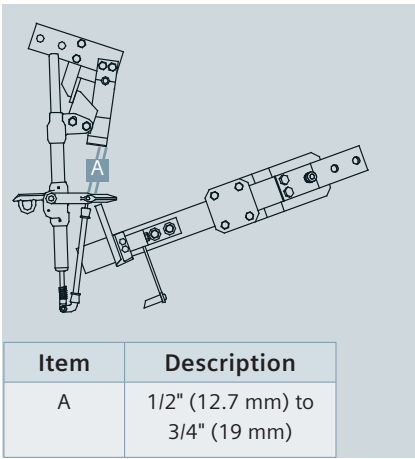

Figure 16: Push bar
- b) Continue to close the blade, when the lever is at 90° to the interrupter, the push bar should be at least 1/2" (12.7 mm) from the side of the yoke. At no time during the closing of the switch should the push bar touch the connecting rod or yoke (refer to Figure 16: Push bar).